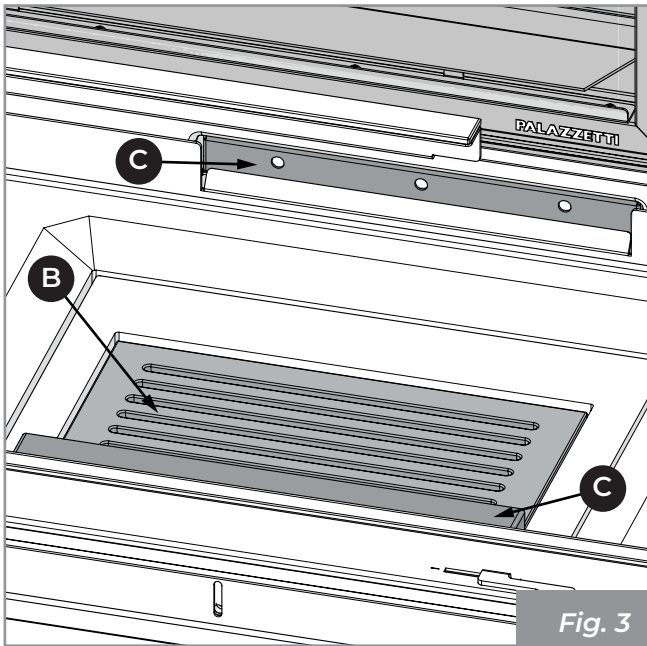

Fig. 3
- 3) Carefully place the pieces of wood in the combustion chamber, being careful not to completely cover the slots in the grate **(B)** and the front and rear holes of the combustion air distributor **(C)** (**Fig. 3**).